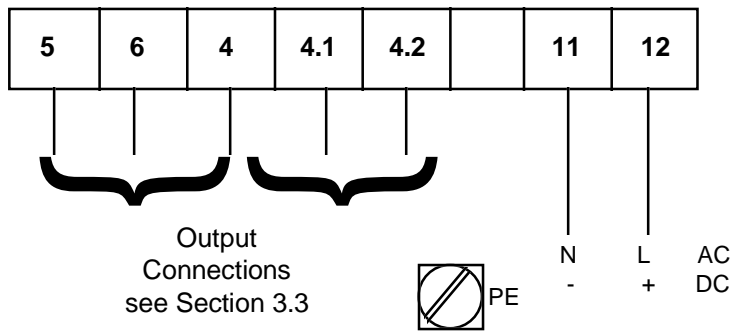

Figure 22: Power and signal connections for MFC 081 K / F
- See Figure 22 for the arrangement of power connections.
The table below shows the input/output connection for the converter. The exact configuration depends on which optional output modules were fitted in the factory. The output options listed include presently available and planned options. See Figure 22 for the arrangement of converter connections. **Option 1 is normally supplied unless one of the other options is specifically ordered.**